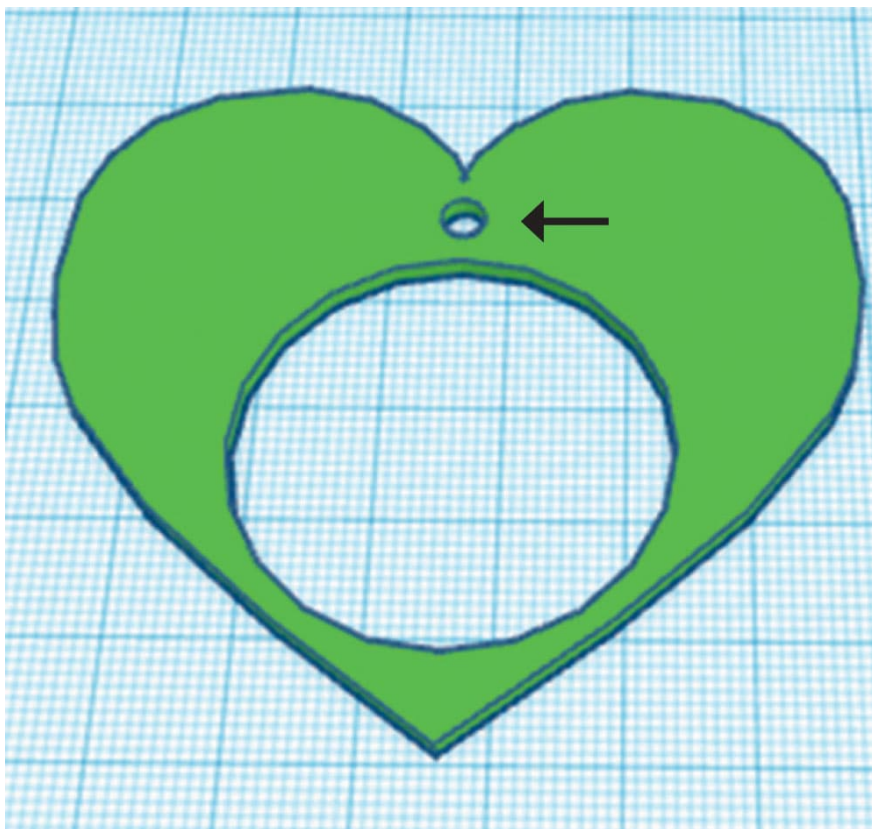

FIG. 9: Make a small hole for the earring hook in the earring solid.
4. Make another small hole with a diameter of 2–4 mm in the center of the top of the heart. This is where we will put the hook to attach the earring to the ear (fig 9).